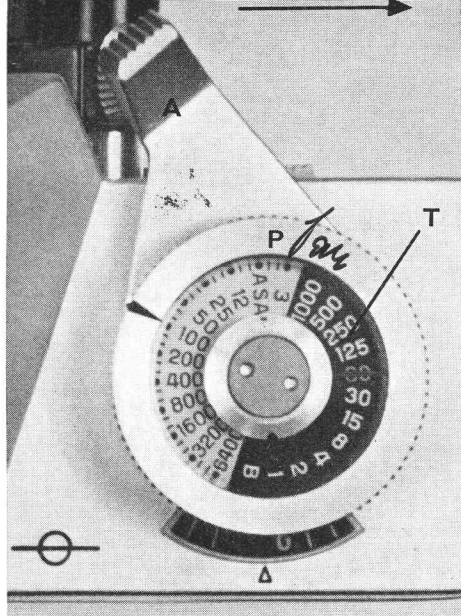
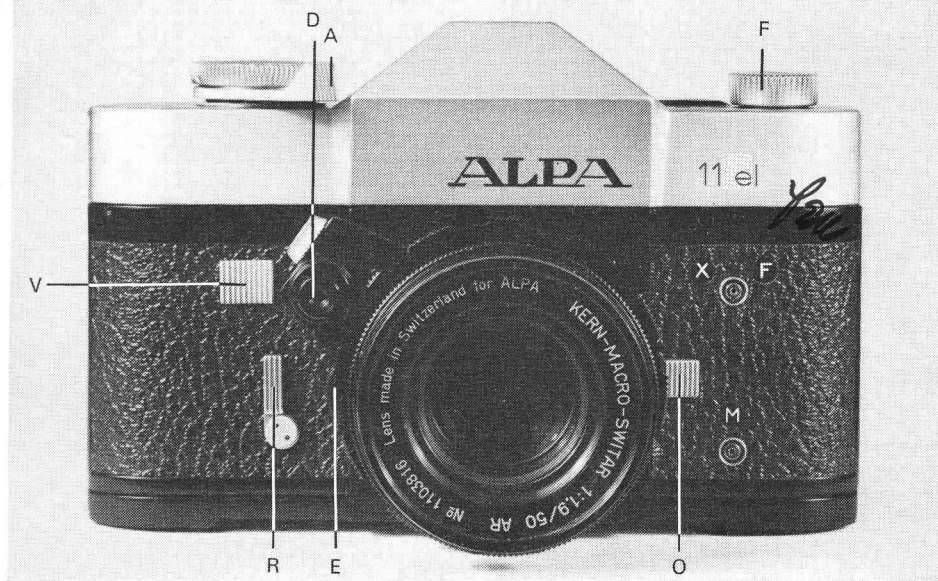
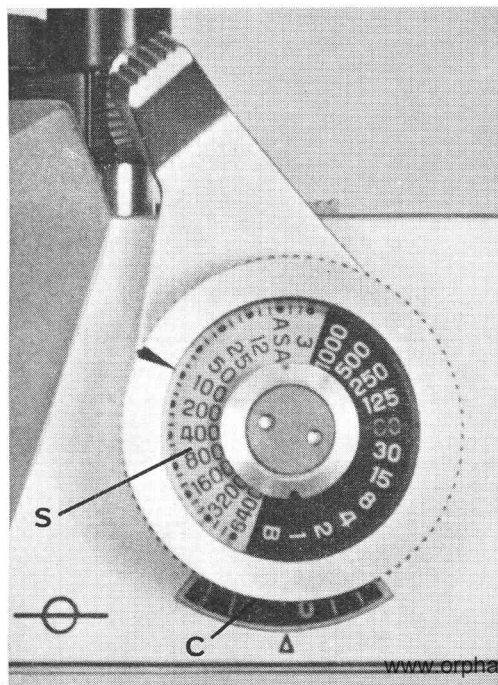

Fig. 1
Fig. 2
Fig. 6
The winding lever A (fig.1) cocks the shutter, advances the film, and counts the
To set the shutter speed turn ring P (fig. 1) to the required speed, shown by the red line of the transparent disc, without going past the black sector (do not force it).
The speed may be set whether or not the shutter is tensioned. The range of speeds, evenly spaced, is the standard: B, 1, 1/2, 1/4, 1/8, 1/15, 1/30, 1/60, 1/125, 1/250, 1/500, 1/1000 sec. B may be locked for T time exposure. To keep the shutter open, the release lock V (fig. 2) must be moved to its innermost position.
Setting B allows you to make time exposures of any length, the shutter staying open as long as the release button is pressed (D, fig. 2). A cable release with locking screw is very useful for long exposures, and when the equipment is on a tripod. The release button should also be locked in position B with shutter open, if any special shutter is used instead of the focal-plane shutter of the camera.
The release button D (fig. 2) is situated on the front of the camera. The finger squeezes the button while the thumb presses against the other side of the ALPA.
The shutter lock V (fig. 2) in its inside position blocks the shutter release while light readings are made. If a cable release is fitted the lock is not effective.
very short focal lengths for example). To do this, simply slide down knurled lever E (fig. 2).
The ALPA 11 el has a self-timer (R, fig 2). This delayed-action release can be set according to the length of delay required.
synchronization sockets (fig. 2). The upper contact XF is for electronic flash at speeds up to 1/60 sec; a shorter speed than this will give only a partially exposed frame. This contact can also be used for special short-peak flashbulbs, but if these are used the manufacturer's instructions must be followed carefully as this kind of bulb is really designed for between-lens shutters. The lower M contact is for use with flashbulbs specially made for focal-plane shutters; their long peak allows short shutter speeds.
Replace the camera back and lock it by turning the key to the left; wind and release the shutter two more times while noting that the central screw of button F (fig. 2) is turning while the shutter is being wound.
Do not forget to set the film speed on the exposure meter; depress the outer ring of the speed dial P (fig. 1) and turn the black index mark until it is opposite the ASA speed of the film (fig. 10). For easier setting of the speed the dial can be put to one end of its scale.
When the frame counter shows 19 or 35 exposures (according to the film loaded), wind to the next frame carefully to avoid tearing the perforations or pulling the film from its cassette altogether – this would make rewinding impossible. When definite resistance to winding-on is felt the film is used up and is rewound after pressing the rewind release knob Q (fig. 6) which disengages the sprockets. It is not necessary to keep your finger on this button. Pull out the rewind crank F (fig. 2) and turn in the direction of the arrow (fig. 10). The film will offer a slight pull against the rewind, until suddenly the crank begins to turn freely. The camera can then be opened and the cassette removed. Take care not to press the rewind knob except when rewinding. If pressed by mistake during exposure of a film, advance the film one frame to re-engage the sprockets.
To change the lens, press the button O (fig. 2) and turn the lens to the left. Position the new lens so as to line up the two red dots, push it gently into the body, and turn to the right until it clicks into position.
a) The shutter speed is set, depending on the subject (fig. 1). Remember to set the film speed when changing films (fig. 6). Lock the shutter release by sliding lever V towards the lens. Press the shutter release (D) to allow the meter and diaphragm to operate. While keeping pressure on the release turn the aperture ring until the lamps visible in the viewfinder and in the accessory clip are both lit.